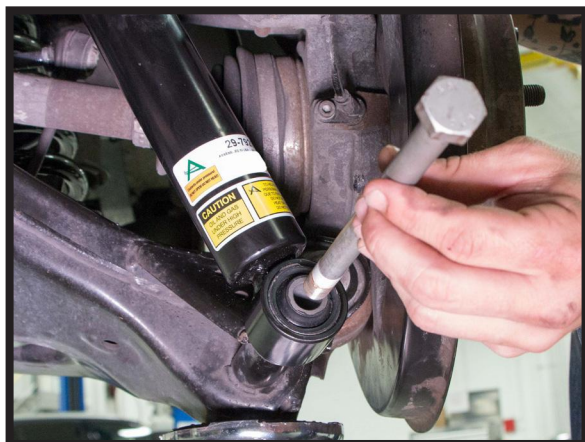

FIGURE 56
8. INSTALL THE LOWER SHOCK MOUNT NUT AND BOLT. (FIGURE 56, 57)